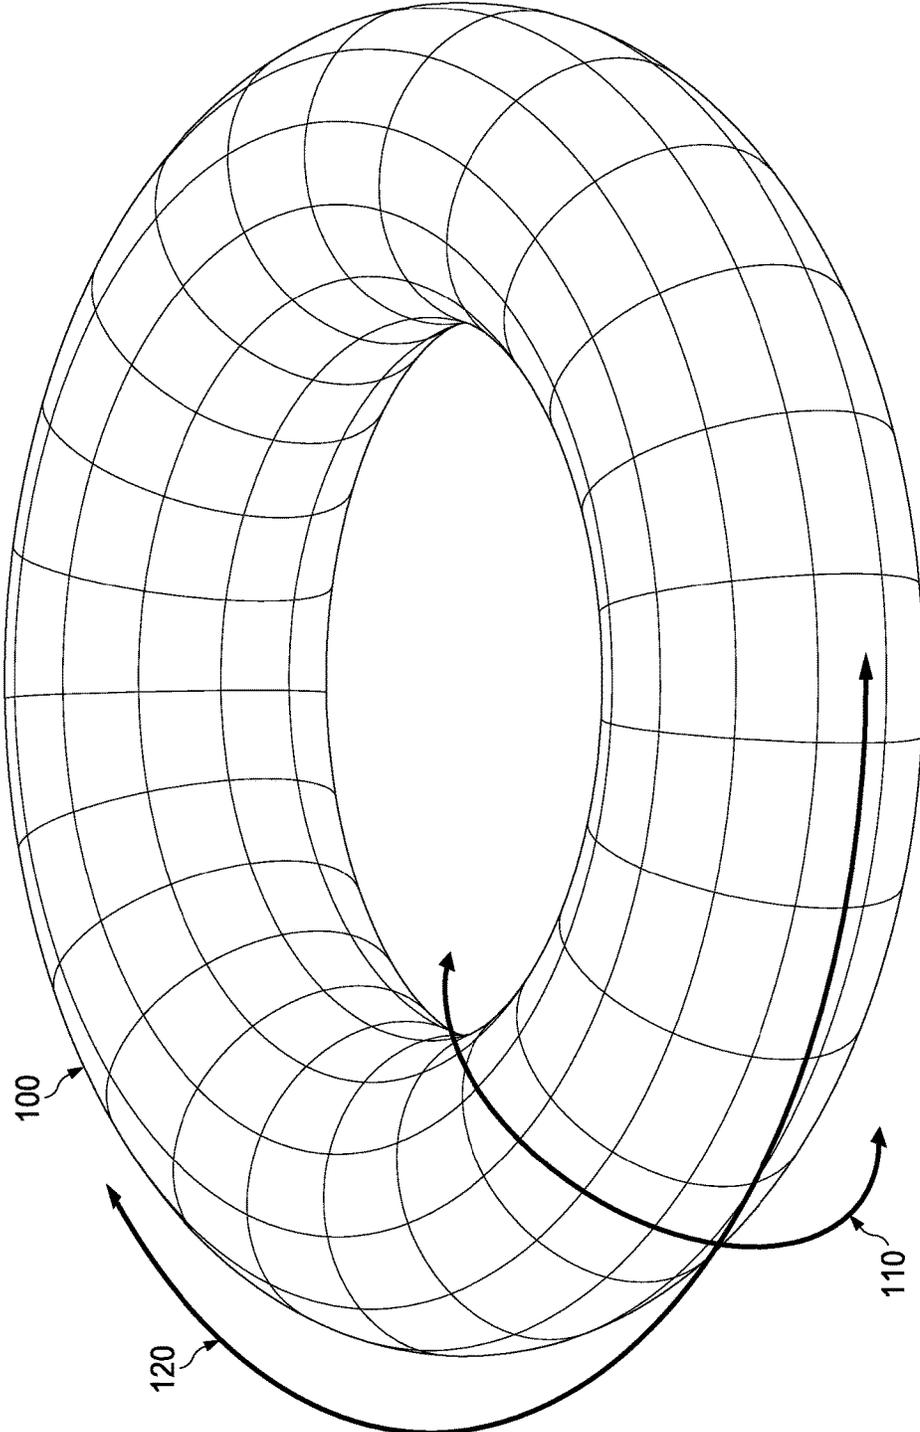

FIG. 1A
**[0009]** FIG. 1A shows a bottom-side view of a basic torus shape with topological grid space;